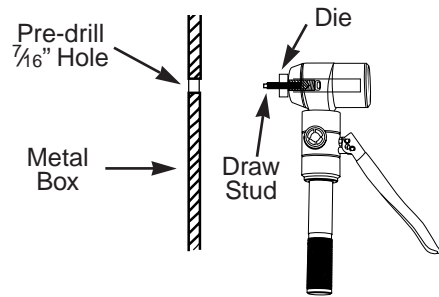

Figure 4
4. Insert the pull stud through the guide hole (Figure 4). Attach the $\frac{1}{2}$ " punch to the pull stud. Turn the punch until it is completely threaded onto the pull stud.